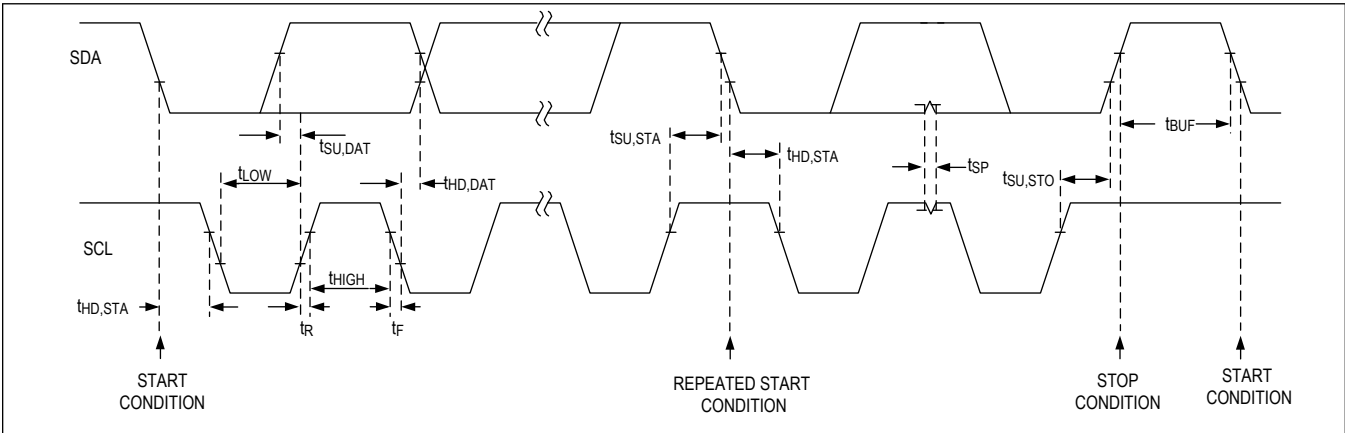

Figure 31. I2C Interface Timing Diagram
The IC features an I2C/SMBus-compatible, 2-wire serial interface consisting of a serial data line (SDA) and a serial clock line (SCL). SDA and SCL facilitate communication between the IC and the controller at clock rates up to 1MHz. Figure 31 shows the 2-wire interface timing diagram. The controller generates SCL and initiates a data transfer on the bus. The controller device writes data to the IC by transmitting the proper peripheral address followed by two register address bytes (the most significant byte first) and then the data word. Each transmit sequence is framed by a START (S) or REPEATED START (Sr) condition and a STOP (P) condition. Each word transmitted to the IC is 8 bits long and is followed by an acknowledge clock pulse. A controller reading data from the IC transmits the proper peripheral address followed by a series of nine SCL pulses. The IC transmits data on SDA in sync with the controller-generated SCL pulses. The controller acknowledges receipt of each byte of data. Each read sequence is framed by a START (S) or REPEATED START (Sr) condition, a not acknowledge, and a STOP (P) condition. SDA operates as both an input and an open-drain output. A pullup resistor, typically greater than 500Ω, is required on SDA. SCL operates only as an input. A pullup resistor, typically greater than 500Ω, is required on SCL if there are multiple controllers on the bus, or if the single controller has an open-drain SCL output. Series resistors in line with SDA and SCL are optional. Series resistors protect the digital inputs of the IC from high voltage spikes on the bus lines, and minimize crosstalk and undershoot of the bus signals.